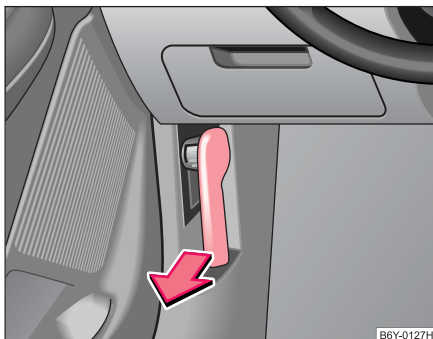

Fig. 123 Bonnet release lever
- Pull the unlocking lever below the dash panel on the driver's side ⇒ **fig. 123**.
- Unlock the bonnet ⇒ page 171, fig. 123.